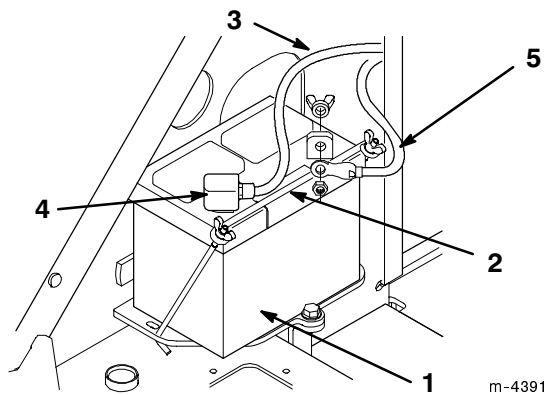

Figure 2
2. Remove the wing nuts and bar securing the battery (Fig. 2).
8. Install the battery into the chassis (Fig. 2).
9. Secure the battery in chassis with the bar and wing nuts removed previously (Fig. 2).
10. Using the bolt and wing nut supplied with the battery, connect the positive (red) cable to the positive (+) battery post (Fig. 2). Slide the rubber cover over the battery post.
11. Using the bolt and wing nut supplied with the battery, connect the negative (black) cable to the negative (-) battery post (Fig. 2).